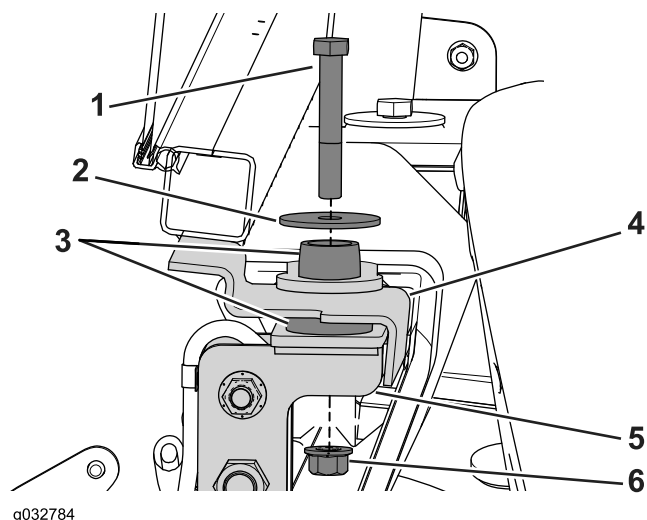

Figure 72
3. Insert a rubber isolator at each of the mounting locations on the cab frame (Figure 72).
4. Use the bolt (1/2 x 3-1/4 inches), large washer and flange nut to mount cab to the machine (Figure 72).